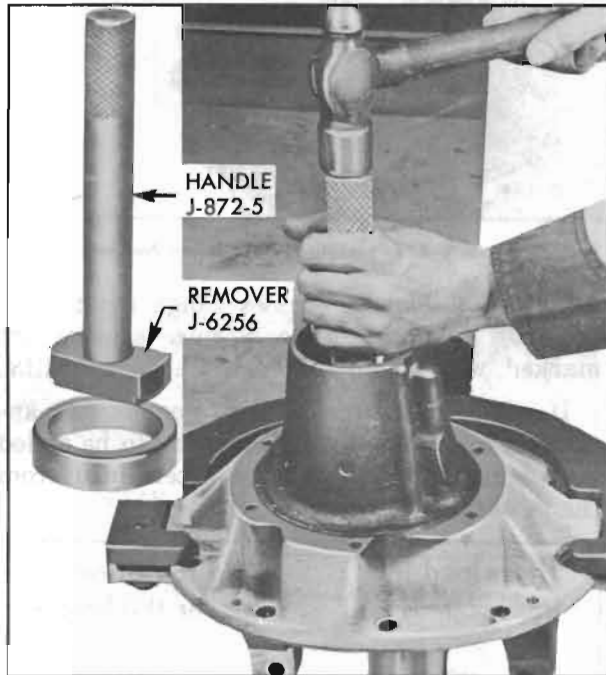

Figure 6-22—Removing Rear Pinion Bearing Outer Race
**NOTE:** *The remover must be inserted in carrier before the driver handle is screwed into it. See figure 6-22.*